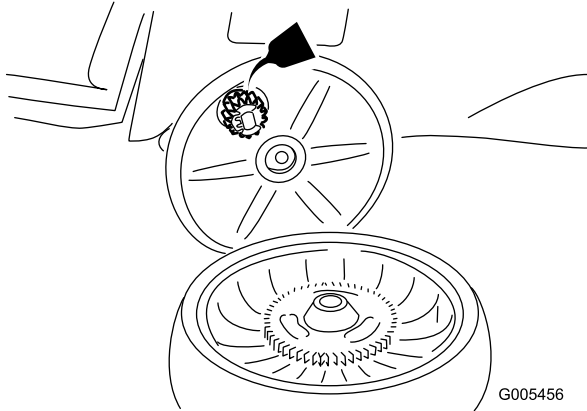

Figure 25
2. Apply a lubricating oil to the gear as shown in Figure 25.